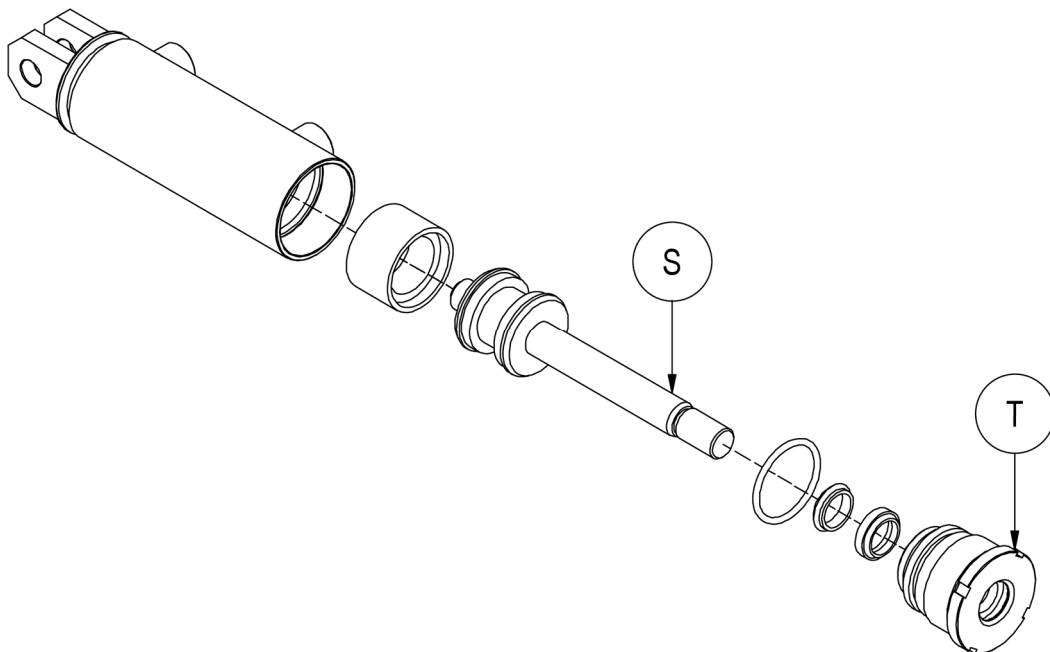

Figure 32
8. For reference, see *Figure 32*.